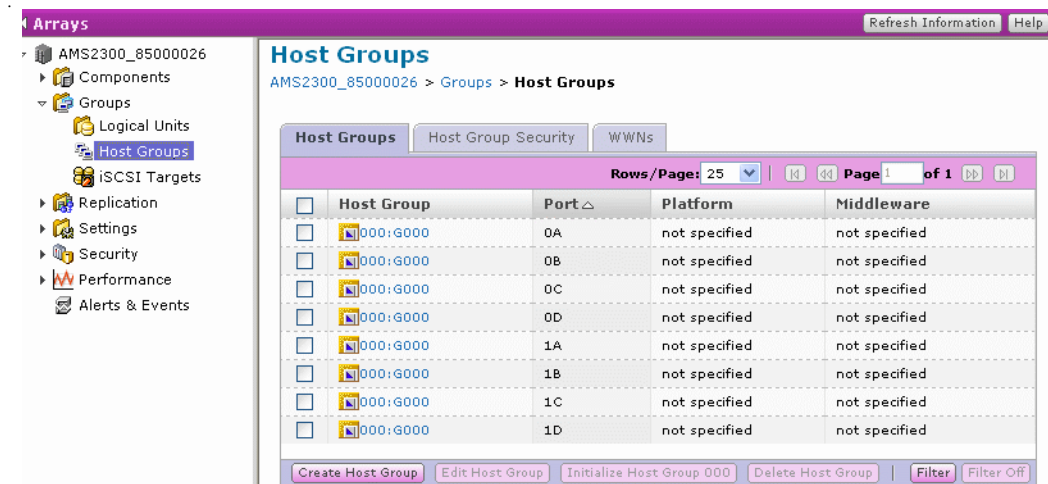

Figure 8-23: Host Groups Window
To understand the host group configuration environment, you need to become familiar with the Host Groups Setting Window as shown in Figure 8-23.
3. Expand the **Groups** list, and click **Host Groups**. The **Host Groups** window appears (see Figure 8-23).
1. In the Hosts Groups window (Figure 8-23 on page 8-25), select the appropriate host group, and click **Initialize Host Group 000**.
1. In the Host Groups window (Figure 8-23 on page 8-25), select the appropriate host group and click **Delete Host Group**.